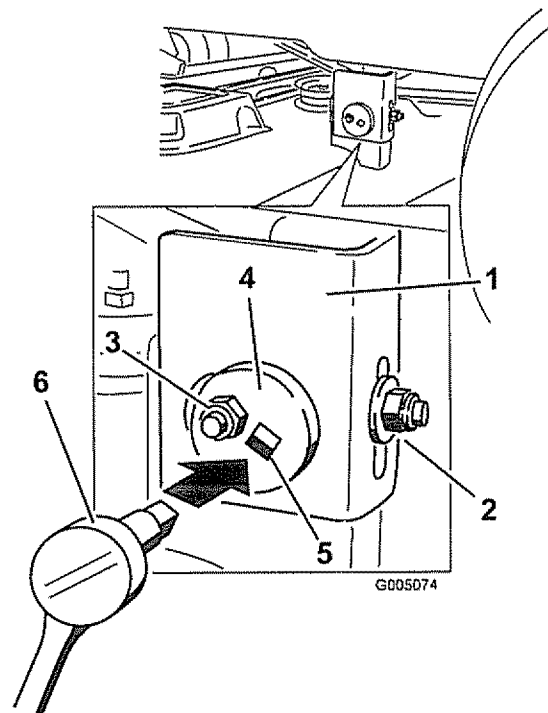

Figure 48
6. Move to the left side of the machine. Loosen, but do not remove, the rear locking nut on the hanger bracket (Figure 48).
7. Loosen the side locking nut on the hanger bracket just enough to allow the eccentric plate to be adjusted (Figure 48). Use a 3/8 inch drive extension on a socket wrench to manipulate the eccentric plate. Use the wrench to reposition the height of the mower deck and adjust to the desired height.
8. Stop the deck at the adjusted position and tighten the side locking nut on the hanger bracket to hold the new position (Figure 48). Tighten the rear locking nut on the hanger bracket.